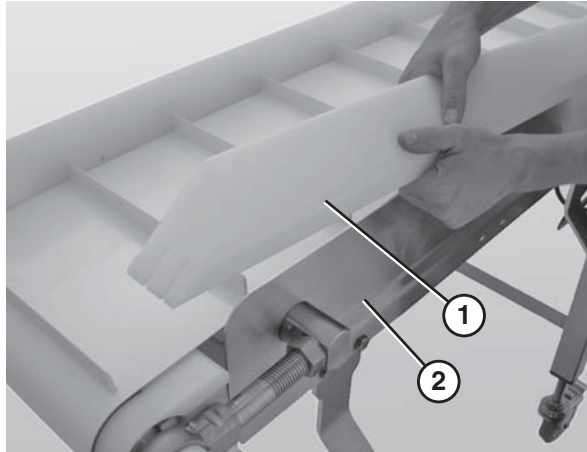

Figure 41
2. Remove the guide (Figure 41, item 1) from the conveyor (Figure 41, item 2).